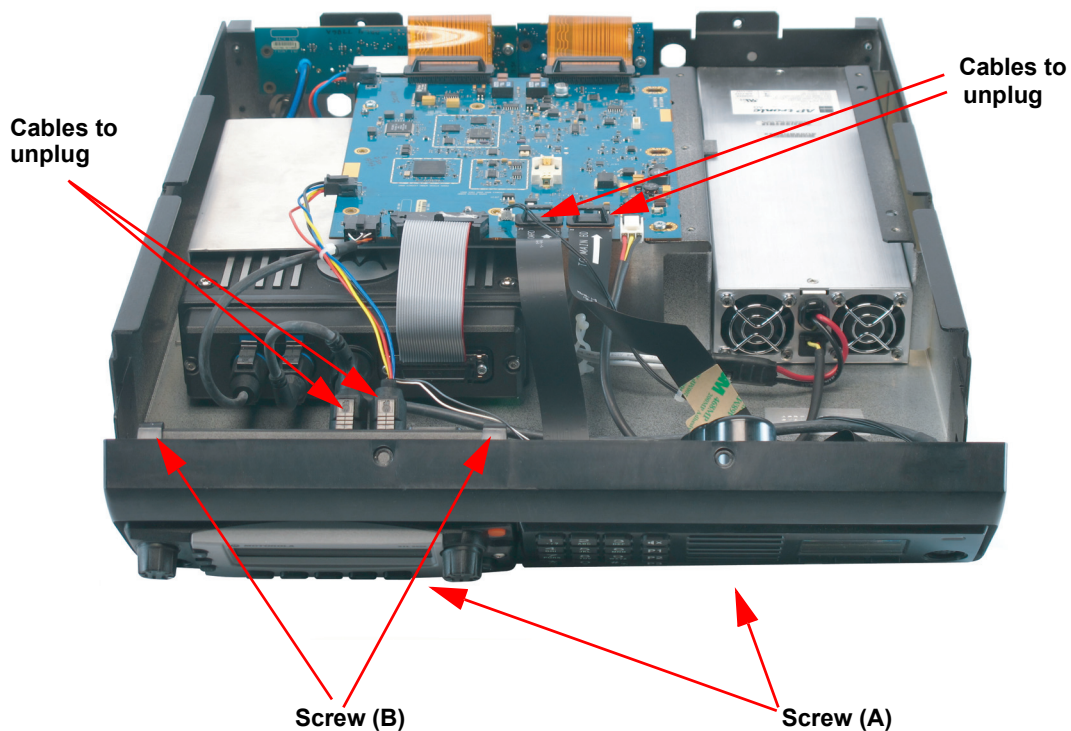

Figure 5-2. Removing and Replacing the Control Head
1. Remove the two screws (A) on the bottom of the front panel assembly as shown in Figure 5-2 using a T25 TORX™ driver.
1. Use a T25 TORX™ driver bit to remove two screws (B) as shown in Figure 5-2.
2. Use a T25 TORX™ driver bit to insert two screws (B) as shown in Figure 5-2.
2. Reposition the front panel onto the chassis and install the two screws (A) on the bottom of the front panel assembly as shown in Figure 5-2 using a T25 TORX™ driver.